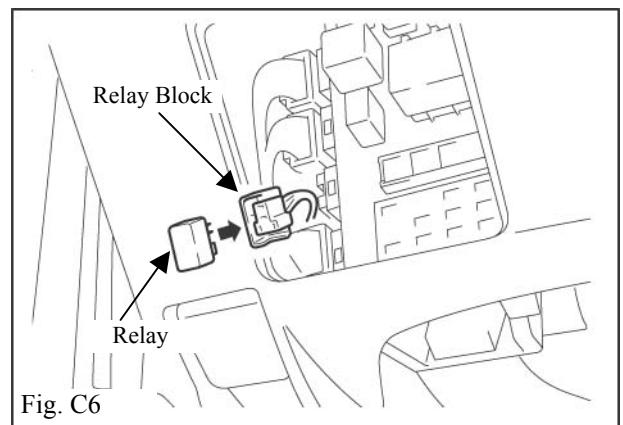

Fig. C6
- ➔ 11. Install relay (in kit) into the relay block. (Fig. C6)